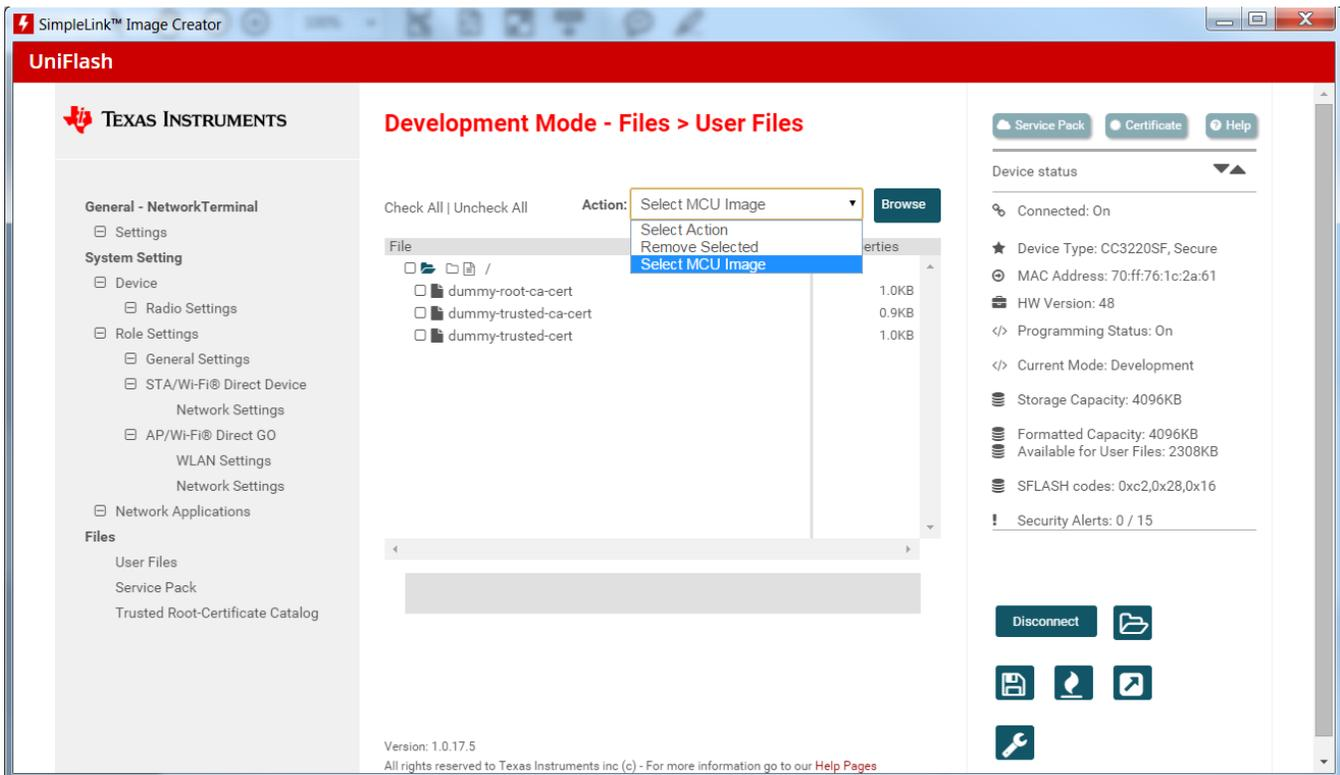

Figure 2-13. Select MCU Image
5. Select Select MCU Image from the drop-down menu, as shown in Figure 2-13.